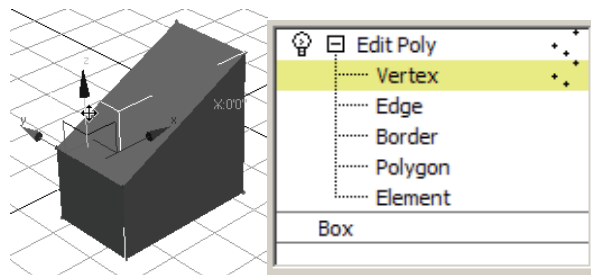

Figure 3–21
- Figure 3–21 shows a Box that is being edited geometrically by lowering two of its vertices with the **Move** transform.